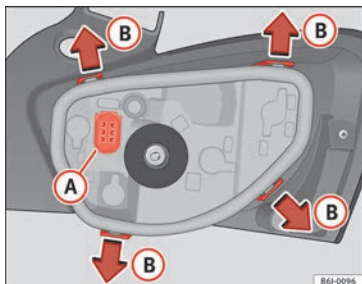

Fig. 98 Changing the tail light bulbs
- Remove the bulb holder, separating it from the casing. To do this, press tabs (B) in the direction of the arrows » Fig. 98.